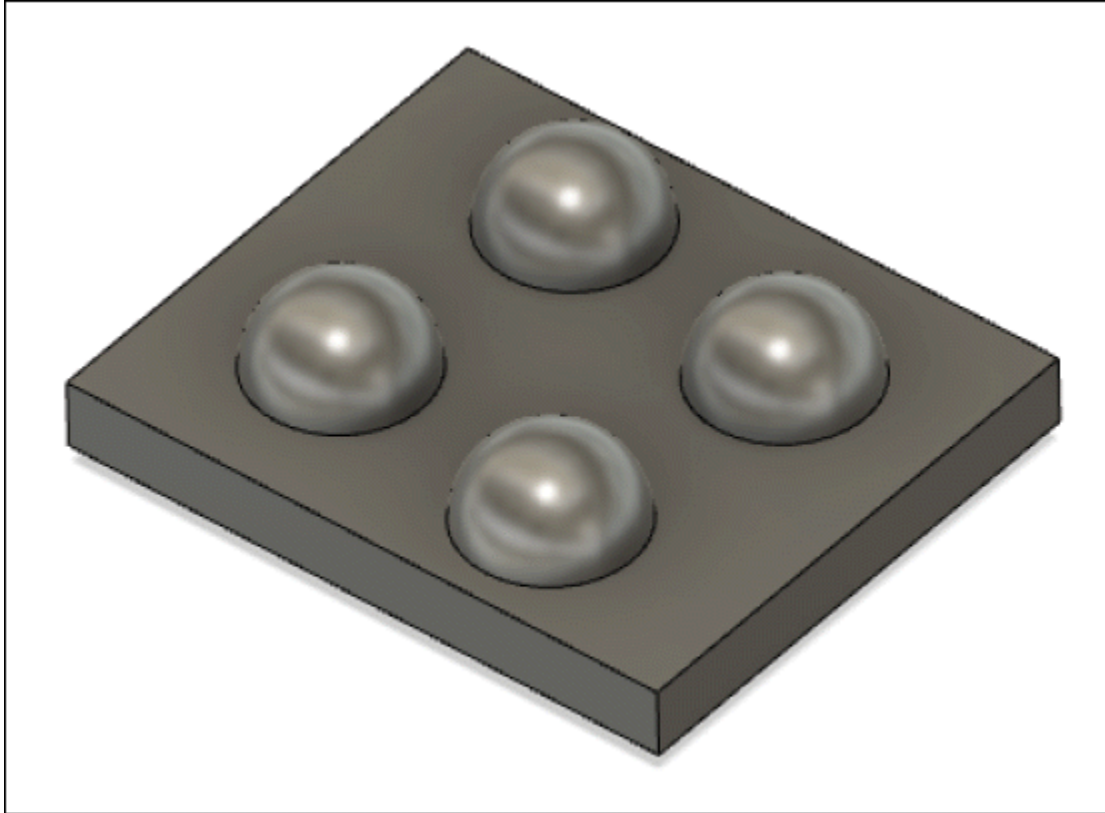

Figure-97. Solid model after applying circular pattern tool
- After specifying the parameters, click on the **OK** button from **CIRCULAR PATTERN** dialog box to finish the process; refer to Figure-97.